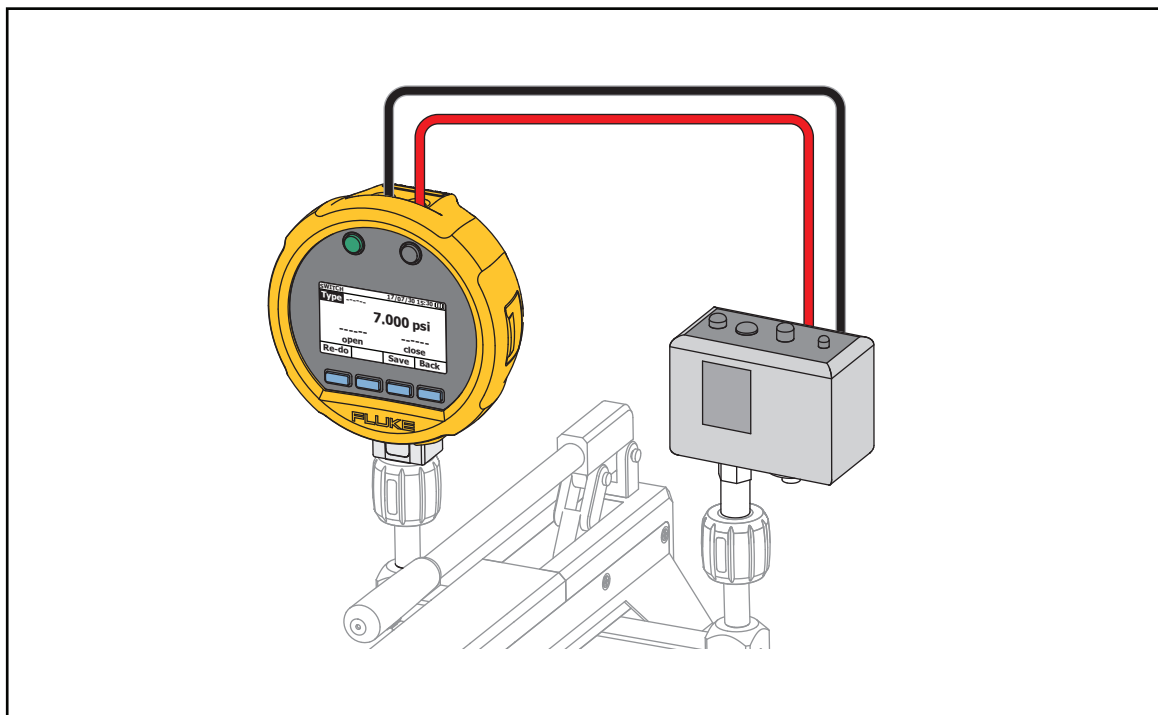

Figure 8. Switch Connection
1. Connect and zero the Product. See Connect and Zero the Product and Figure 8.